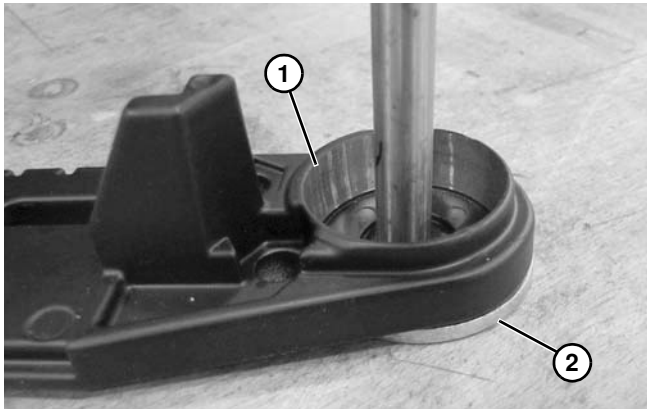

Figure 136
2. Set tail plate (**Figure 136, item 1**) flat side down over washer (**Figure 136, item 2**) or hole in workbench that has a minimum diameter of 5/8".